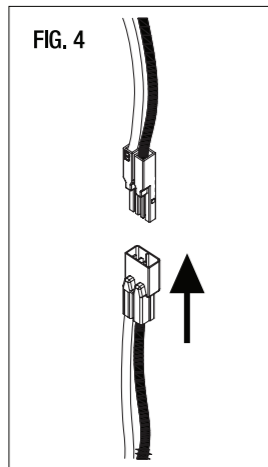

FIG. 4
- Plug the male connector of the Socket Adapter into the female connector of the Luminaire as shown in FIG. 4. For model MXA-RD6-11W-XXX-277, connect the black wire to L and the white wire to N.